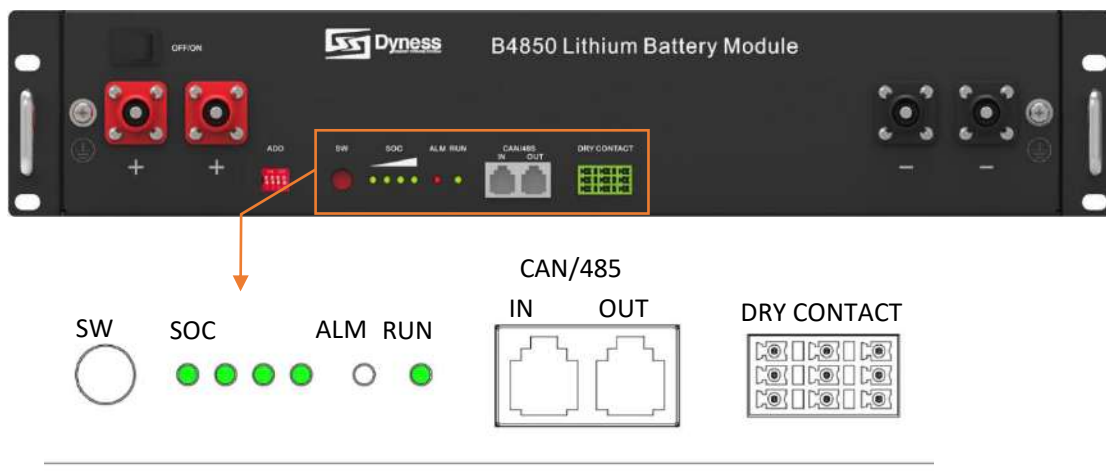

Figure 4-1
- 3 After the indicator self-test, the RUN indicator will light and the SOC indicator will be on (100% SOC status in the Figure 4-1).